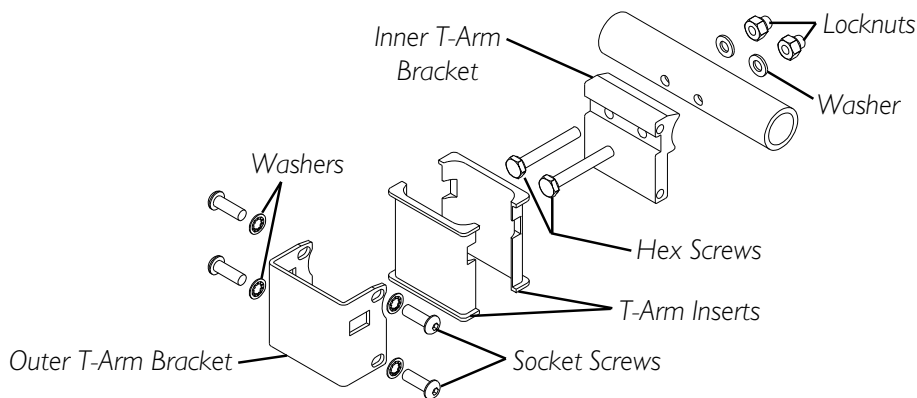

FIGURE 1 - INSTALLING THE T-ARM SOCKETS
5. Position T-arm bracket inserts between inner and outer T-arm brackets as shown in FIGURE 1.